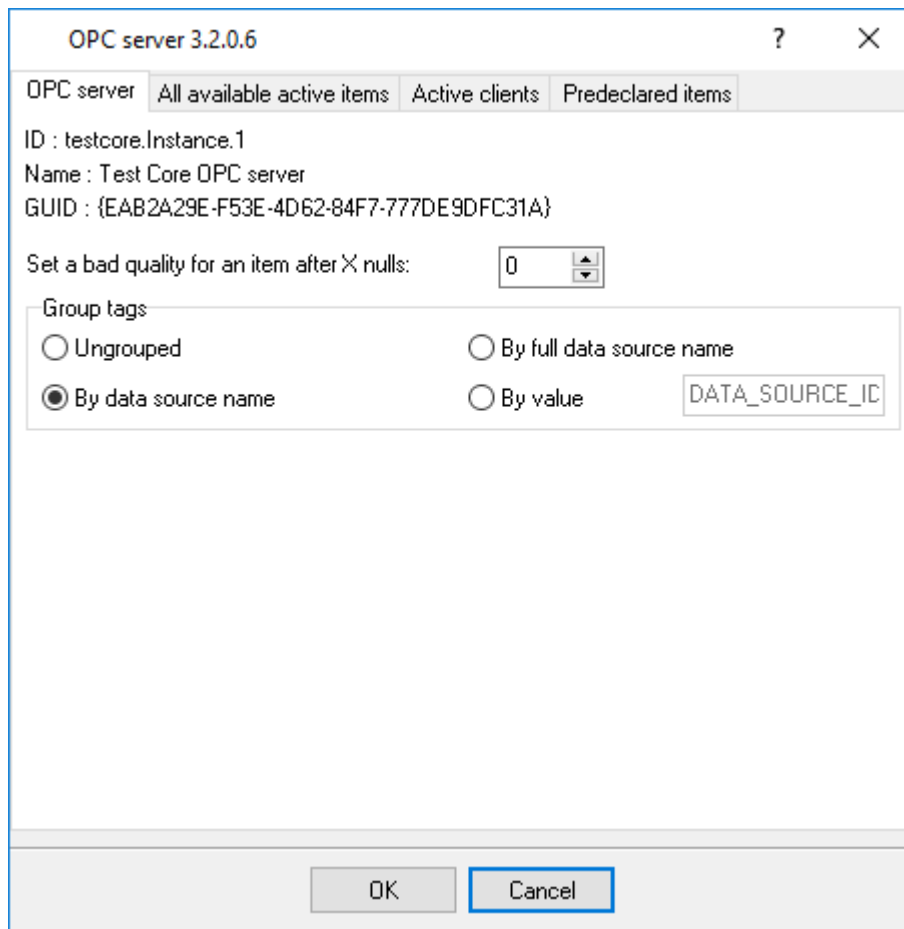

Fig. 19. OPC server parameters
- **Events handling** (fig. 19) - these plugins are used to handle events generated by the Accurate Printer Monitor software. Once an event occurs (for example, "Data source is opened" or "Configuration changed"), the plugin creates a text message using the specified template, sends a notification, does some actions, executes a program or a script, etc. The form of the notification or actions depends on the plugin settings.
Accurate Printer Monitor has an internal OPC server. It means that any OPC compatible client application can get data from Accurate Printer Monitor without any additional software. To connect to the OPC server, you need the server ID and name (fig. 19). Before using the OPC server on your computer, you should download and install the OPC Core Components Redistributable from www.opcfoundation.org (registration required).